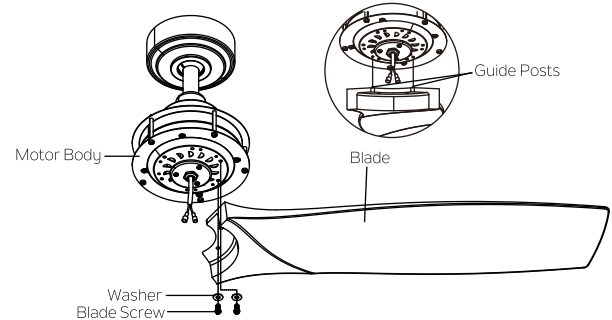

Fig. 17
**Step 1.** Lightly attach the blade to the motor body with washers and screws found in the blade attachment hardware pack. Then, securely tighten after two screws are attached.(Fig.17)
**NOTE:** Guide posts are present on the blade to help align the blade with the motor body.(Fig.17)